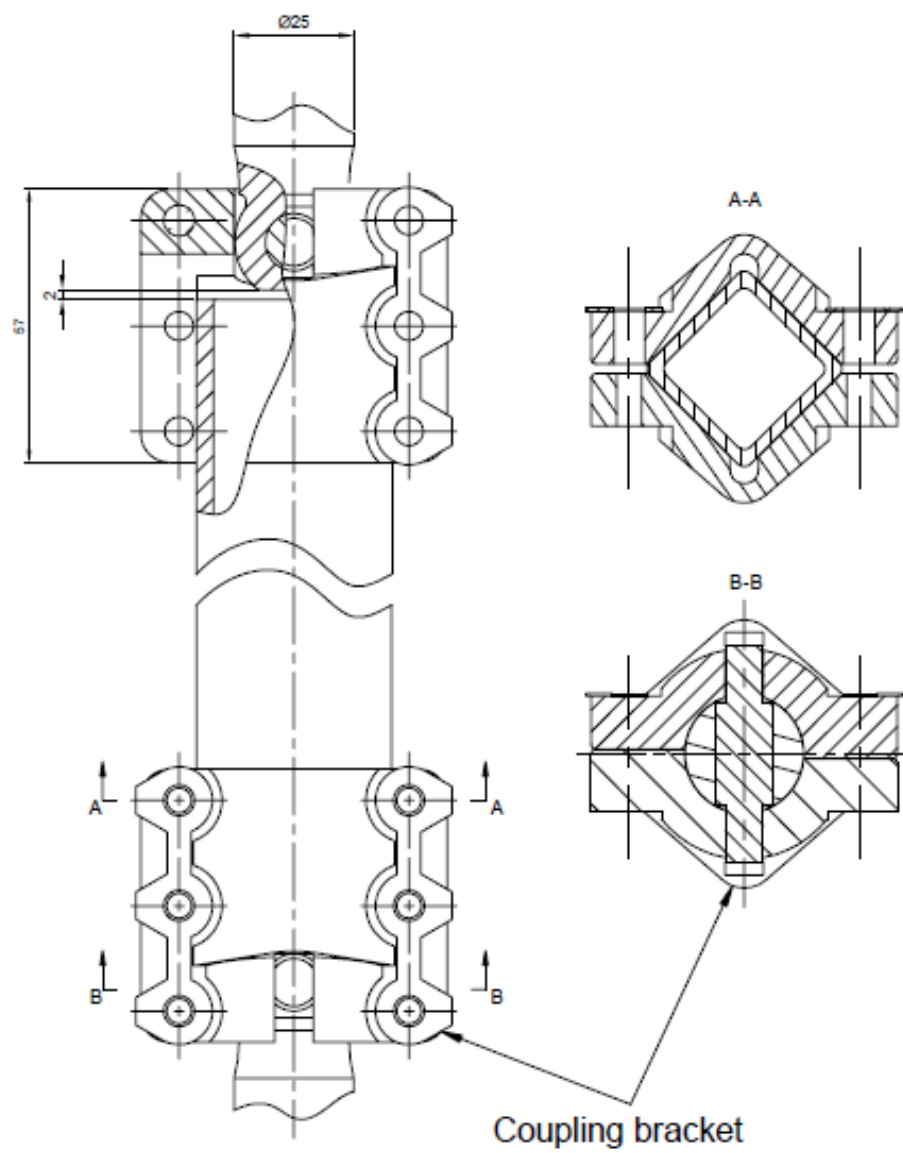

Figure 7.5.1 Driving shaft mounting dimension unit: mm
7.5.1 Connect the driving shafts, motor-drive unit, and on-load tap-changer as per the instructions specified in motor-drive unit operation instruction (Figure 7.5.1 Appendix 8)